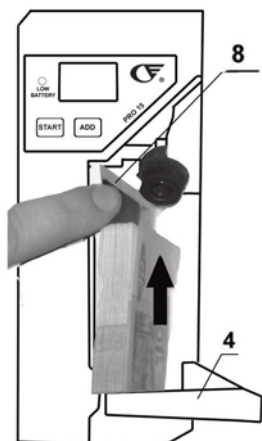
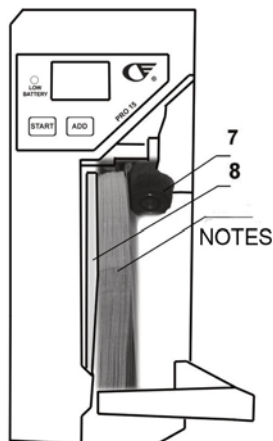

Figure 2
Figure 3
3.5 Place banknotes in a stack and insert them parallel to clamp plate (Fig. 1-8) as shown on Fig. 2, holding the clamp plate by forefinger against the guide plate at the end of the stack. The stack of banknotes should be placed against the clamp plate by their end and lay between clamp plate (Fig. 1-8) and counting roller (Fig. 1-7) see Fig. 3. This is the only position that will ensure an accurate count.